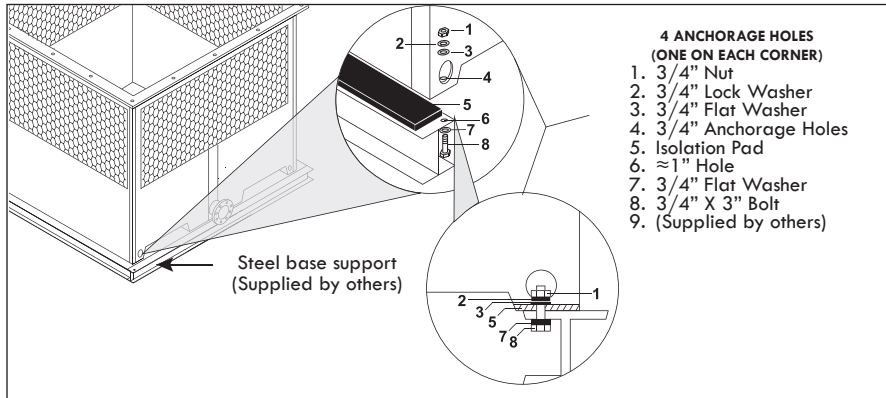

Figure A-5: Typical anchorage for a Single Fan Tower
- F. Place the basin section on top of the isolation pad and the steel base structure, making sure that the anchorage holes on the bottom of the Tower are aligned with the perforations of the base. Then proceed to bolt it down and secure it with stainless steel nut and bolt sets (supplied by others) as shown on Figure A-5.